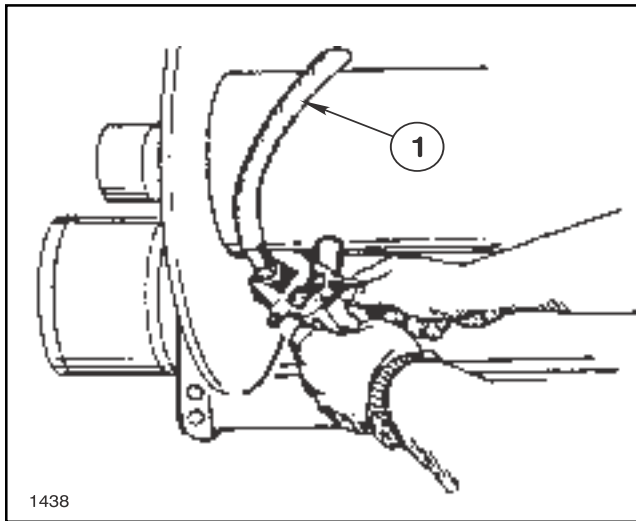

FIG. 2
1. Hand thread the male hose connector into the connecting tube on the Reel Shaft. See FIG. 2.